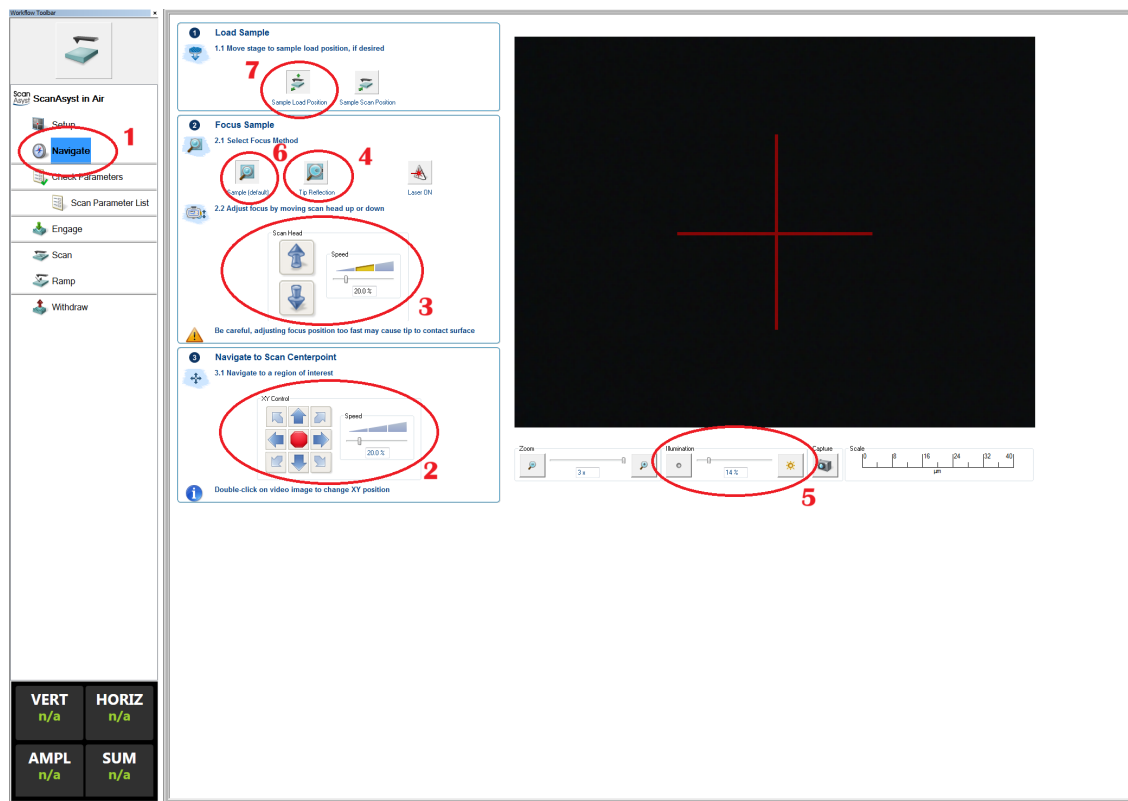
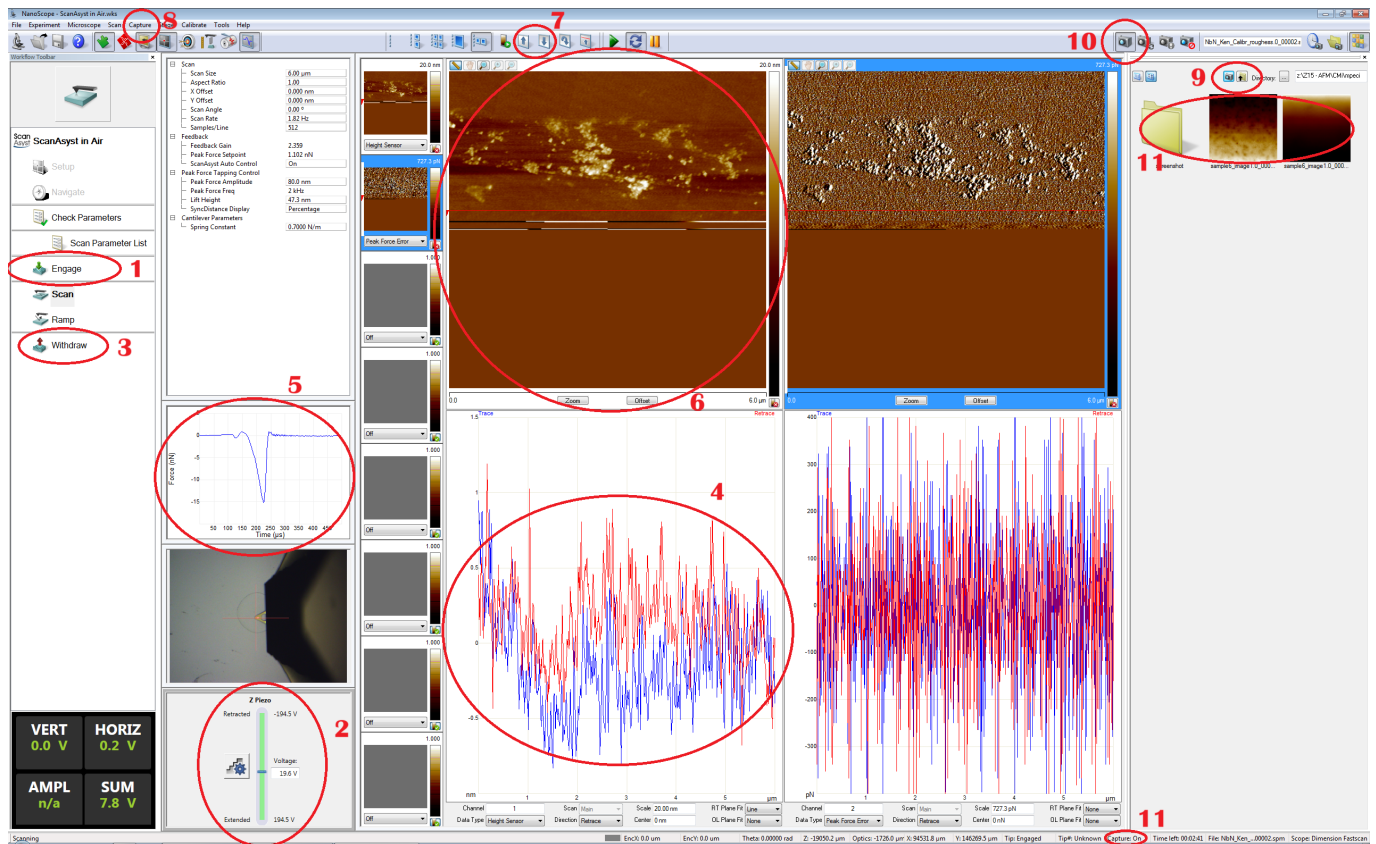
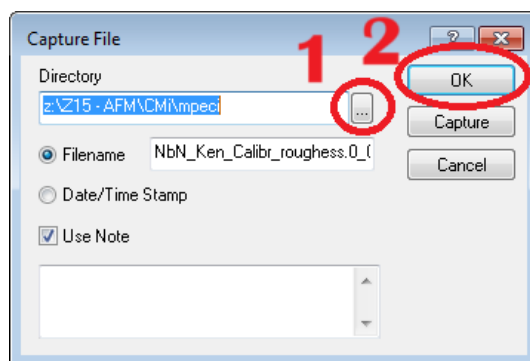

Figure 9: Navigate menu
Figure 13: Engage Menu
Figure 14: Capture filename menu
The next menu is the Navigate menu (see Figure 9, circle 1).
The next step is to move the sample under the AFM tip. To do this, use the arrow keys at the bottom of the page (see Figure 9, circle 2). Once the sample is positioned under the tip, focus on it by moving the AFM head downwards (see Figure 9, circle 3).
2. Focus on the cantilever, which is generally safer and easier. To do this, click on the "Tip Reflection" button (see Figure 9, circle 4).
Before moving the AFM head down, set the zoom to 0 and the illumination to around 14% (see Figure 9, circle 5). Then, lower the AFM head until the tip is about half a centimeter from the wafer.
Once the tip is in focus, click the "Sample Default" button (see Figure 9, circle 6). This will move the camera to the AFM head and bring the wafer into focus, allowing you to select the measurement location, especially if there is a specific area on the wafer to be analyzed.
Once the parameters are set, you can click the "Engage" button (see Figure 13, circle 1) . The AFM will then begin the measurement. When the measurement starts, you need to perform three checks.
1. The displacement of the AFM's piezo should not exceed 1.5 μm up or 1.5 μm down. If the displacement exceeds these limits, the indicator will turn orange and then red (see Figure 13, circle 2). If this occurs, withdraw by clicking the "Withdraw" button (see Figure 13, circle 3).
2. The AFM measures the sample line by line. The blue and red lines represent the same measurement. If everything is working correctly, the two lines should be roughly the same (see Figure 13, circle 4). Note that this may not be immediately accurate; allow the AFM to begin the measurement, as it can take some time for the lines to stabilize.
3. You will see a graph representing the force on the tip. It should look roughly like the one in figure 13, circle 5. This will not be immediately accurate; you need to let the AFM initiate the measurement, as it may take some time to stabilize
In the center you can see your measurements (see Figure 13, circle 6), by default, the measurement will begin in the middle. To avoid measuring the same area twice, click the button at the top (see Figure 13, circle 7).
To save your measurement, first choose your folder. Click the "Capture" button (see Figure 13, circle 8) and then select the "Capture Filename" option. A page will open where you need to click the three dots to choose the folder where the image will be saved (see Figure 14, circle 1), and then click "OK" (see Figure 14, circle 2).
After setting the folder, click the small camera and the folder icon next to it (see Figure 13, circle 9). Your folder should then appear on the right (see Figure 13, circle 11). The final step is to click the larger camera icon at the top (see Figure 13, circle 10) to capture the image. To verify that the measurement is being saved, check that the capture status at the bottom left is "On" (see Figure 13, circle 12). Once the AFM has finished scanning, the image will be automatically saved and the capture status will switch to "Done." To save again, you need to restart the capture (see Figure 13, circle 10). The AFM will continuously scan the sample. During the scan, you can adjust the scanning parameters, and the changes will be applied immediately. At the end of each scan, if the capture status is "On," a new image will be saved.
To stop the measurement, click the "Withdraw" button (see Figure 13, circle 3). To retrieve your sample, return to the navigation menu and click the "Sample Load Position" button (see Figure 9, circle 7). This will move the AFM back to its starting position. Finally, turn off the vacuum holding your sample on the plate and take it.